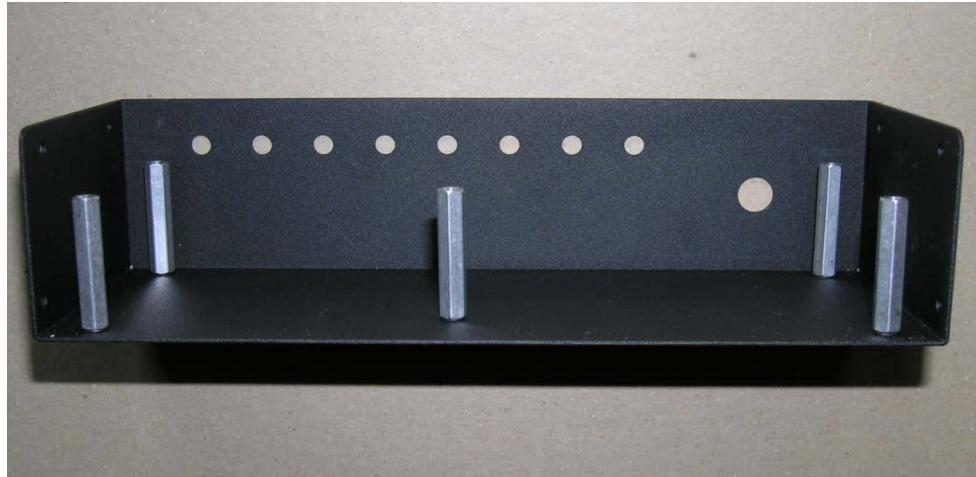

Figure 30. Mounting of aluminum standoffs
15. Mount the five aluminum standoffs as shown below in Figure 30. Install a .25" zinc plated screw (silver in color) from the outside of the enclosure to secure each standoff to the enclosure.